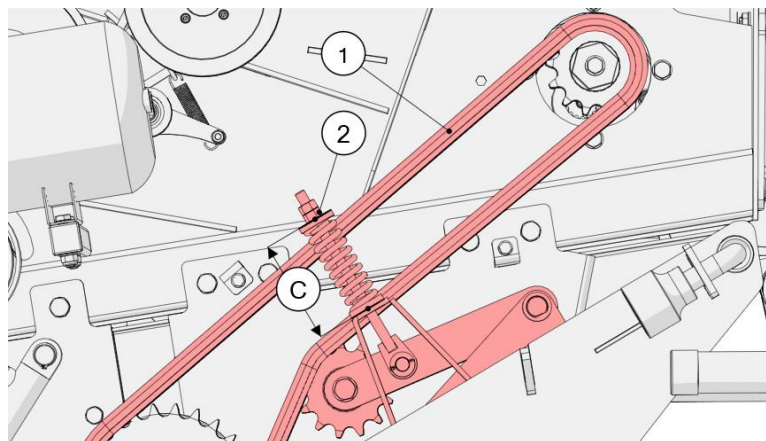

Figure 58. Tensioning the chain of the rotor
- To tension the rotor's chain (1), turn the nuts of the tensioner (2) so that the distance is $C = 95$ mm, as shown in Figure 58;